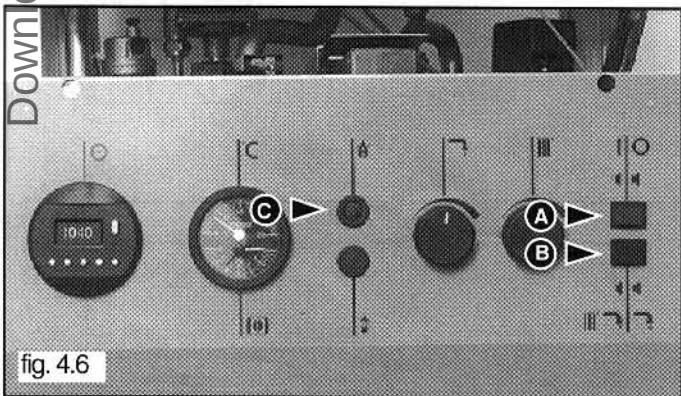

fig. 4.6
Switch on the electricity and turn on boiler by pushing button "A", ensuring that the neon is on. (If neon does not come on then check electrical connections) (see fig. 4.6).
- 2 Select heating mode by setting button "B" to heating mode (see fig. 4.6).
To reset the boiler, depress the reset push button "C" marked with the symbol  (see fig. 4.6).